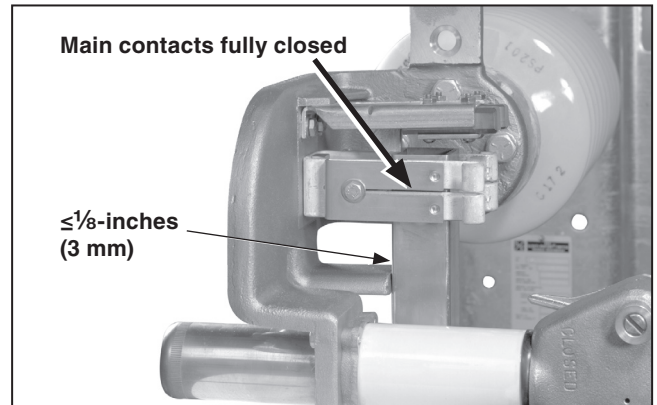

Figure 25. Check that the blade is fully closed and within 1/8-inch (3 mm) of the stop on the terminal base casting
- (a) With the operating handle as far as it will go in the closing direction, both main contacts of each switch pole are fully closed with the blade within 1/8-inch (3 mm) of the stop on the terminal base casting. See Figure 25.